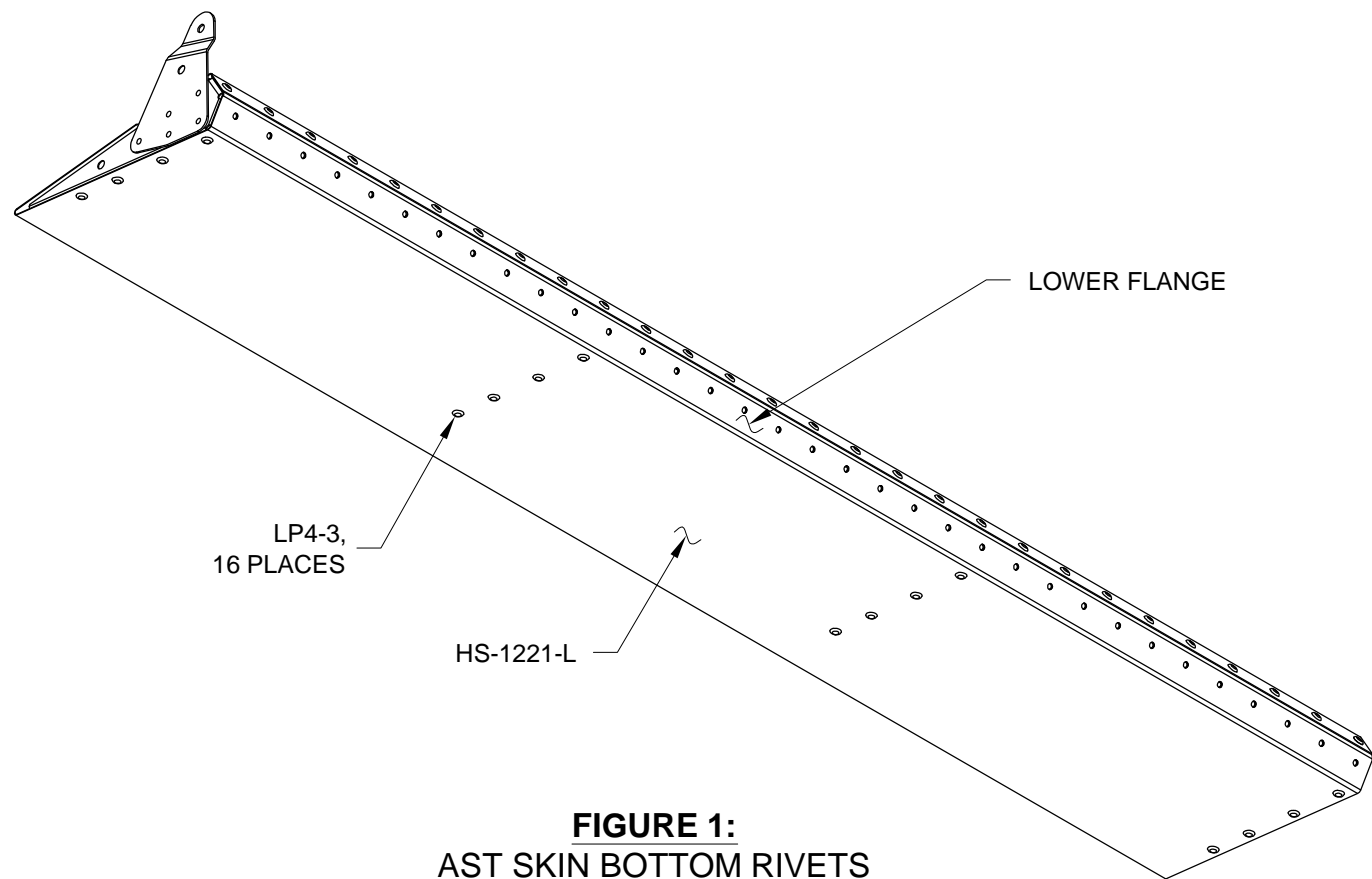
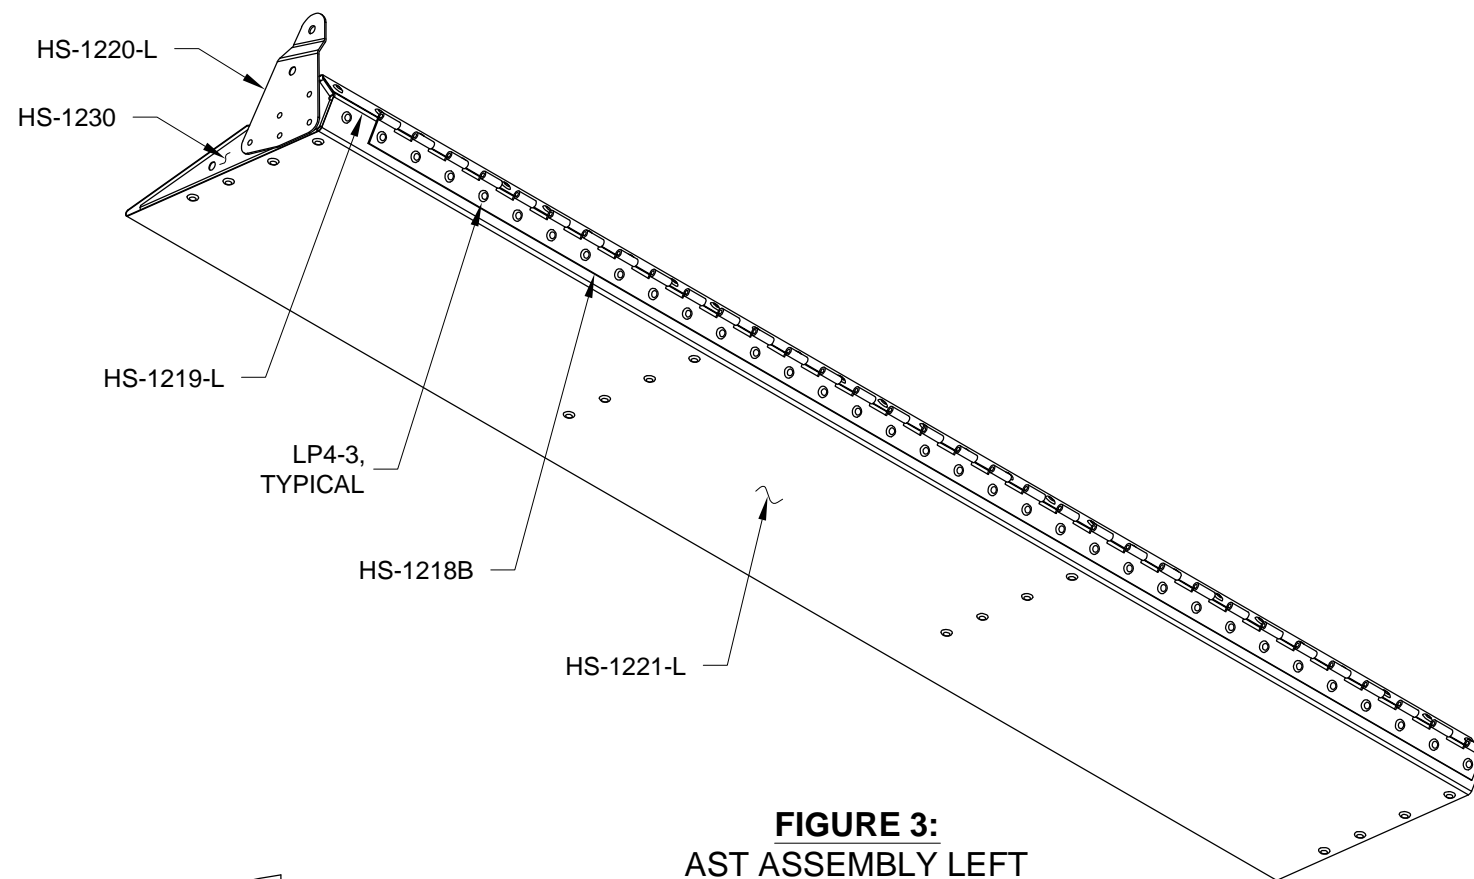
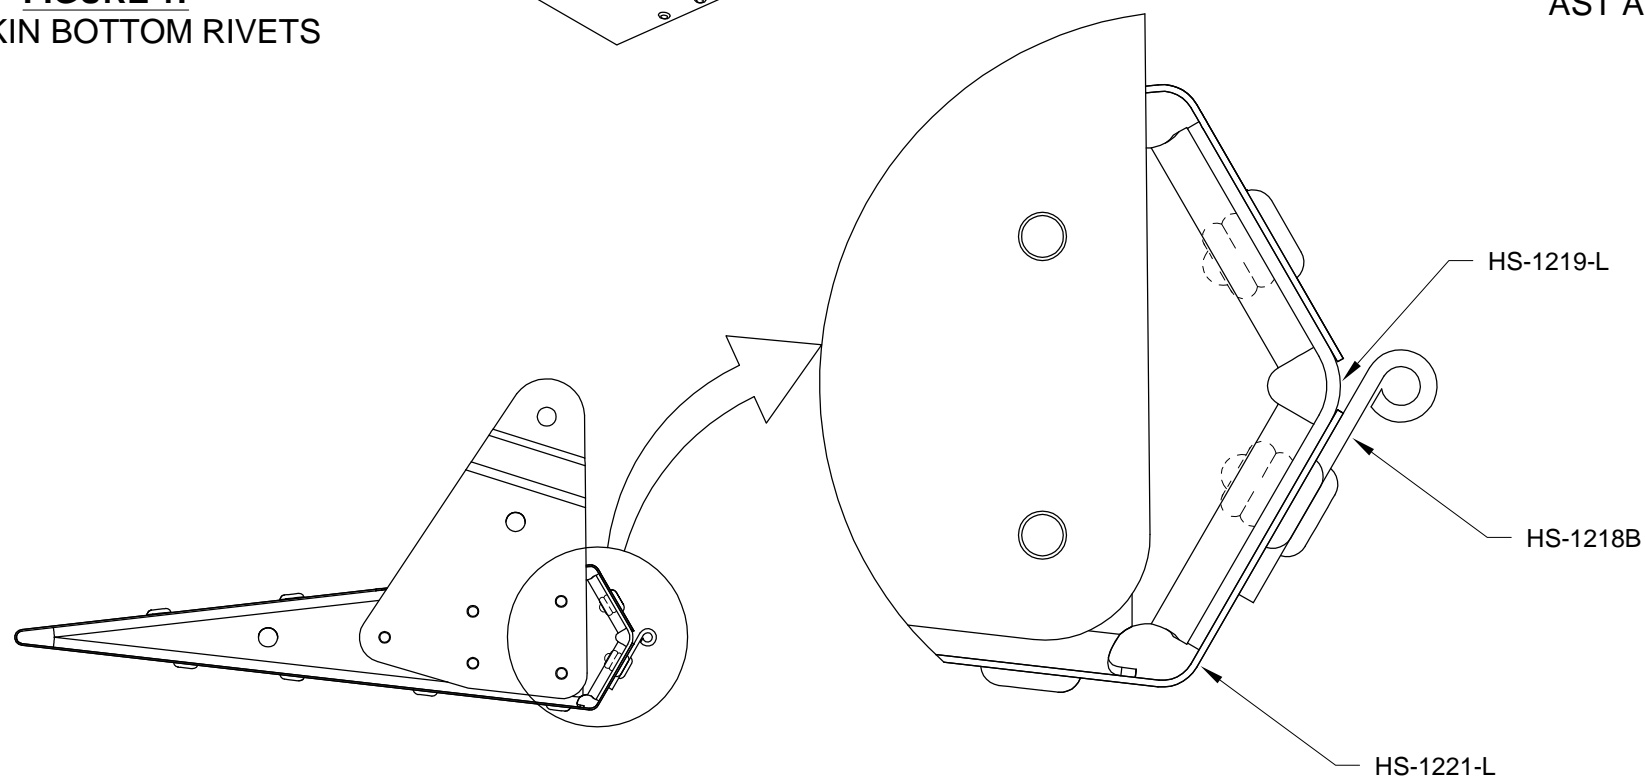

FIGURE 1:
FIGURE 3:
FIGURE 2:
Step 1: Rivet the bottom surface of the HS-1221-L AST Skin to the HS-1222 AST Ribs and the HS-1230 Inbd Rib per the rivet call-out in Figure 1. Guide the lower flange of the AST skin to the outside surface of the HS-1219-L Spar as shown in Figure 2.
Step 2: Install the AST Hinge with eyelets outward, as shown in Figure 2. Rivet the HS-1218B AST Hinge to the HS-1221-L AST Skin, the HS-1219-L AST Spar and HS-1230 Inbd Rib per call-outs in Figure 3. Begin at the hole farthest from the HS-1220-L AST Horn.